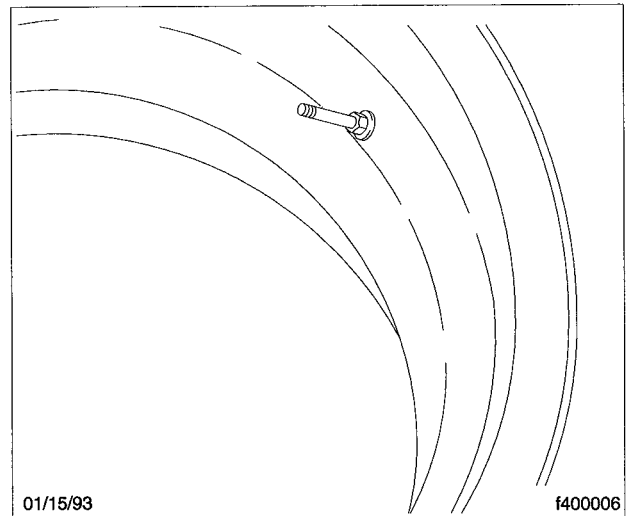

Fig. 5, Valve Stem
- 6.1 Place the valve stem, with a rubber washer, through the valve hole from the tire side of the rim. Screw on the valve nut from the opposite side. Make sure the rubber bushing and metal collar or nut are centered and fit snugly in the valve hole. See **Fig. 5**. Tighten the nut securely.